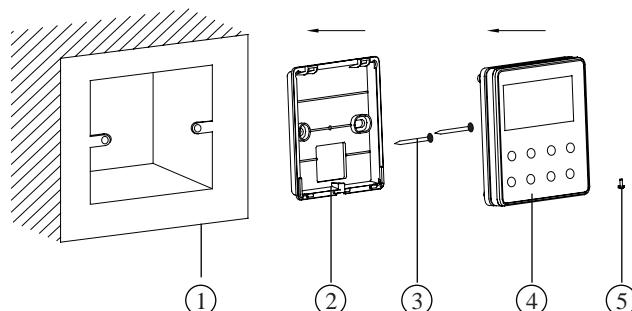

Fig.3.2.3
**Notice for installation under the guidance of Fig.3.2.3**
- ⑤. Cut off power supply before install the electrical components, it is forbidden to carry out the installation with power on;
- ⑥. Get one end of the 4 core communication cable, put it through the rectangular hole on the base board on the wire remote controller;
- ⑦. Hold the base board of controller on the wall, then fix it to the wall with M4x25 screw;
- ⑧. Plug the 4 core communication cable into the slot on the wired remote controller, then fix the controller panel with base board together;